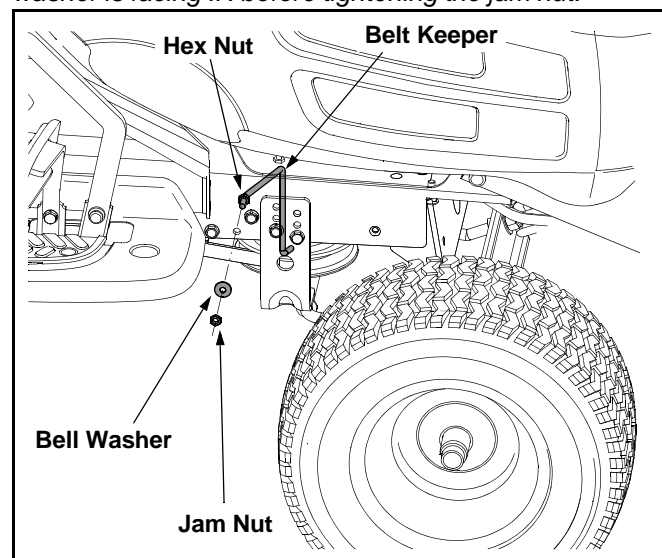

Figure 21
2. Secure the belt keeper to the **inside** of the tractor's frame with the hex nut, bell washer and jam nut as shown in Figure 21.